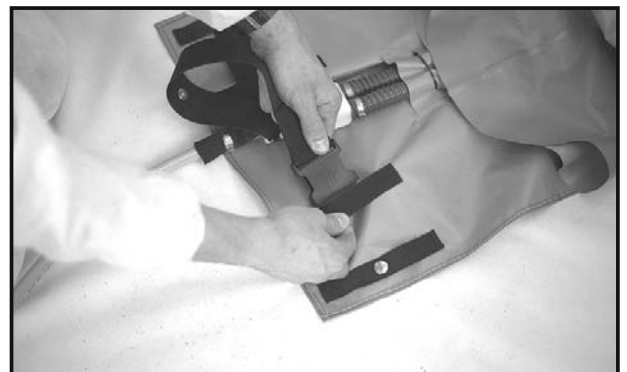

Fig. 9.
4. Release the two pop studs on the waist belt (Fig. 9.) and slide the waist belt out through the belt loops. Before fitting a control waist belt check there is a new silencer fitted and that it is securely screwed into the bulkhead.